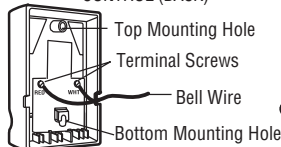

Figure 4 REMOVE COVER
- Remove cover by gently prying at the side of the cover with a small flat head screwdriver (Figure 4). Fasten with 6ABx1-1/4" self-tapping screws (drywall installation) or 6-32x1" machine screws (into gang box) as follows: